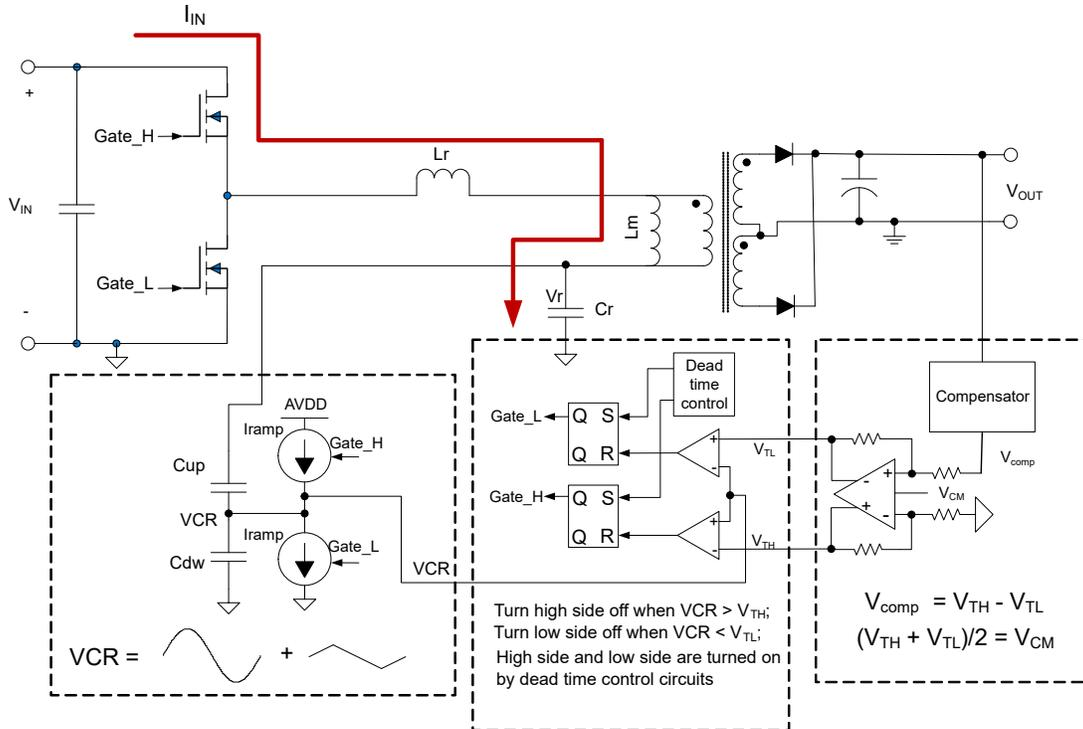

Figure 2-16. HHC Basic Scheme
- The resonant capacitor voltage is sensed using lossless capacitor divider (Cup and Cdw) as shown in Figure 2-16.
- The VCR waveform is composed of two components: the sampled resonant capacitor voltage and the voltage due to internal frequency compensation current. This frequency compensation is added using two well-balanced current sources (Iramp) as shown in Figure 2-16.